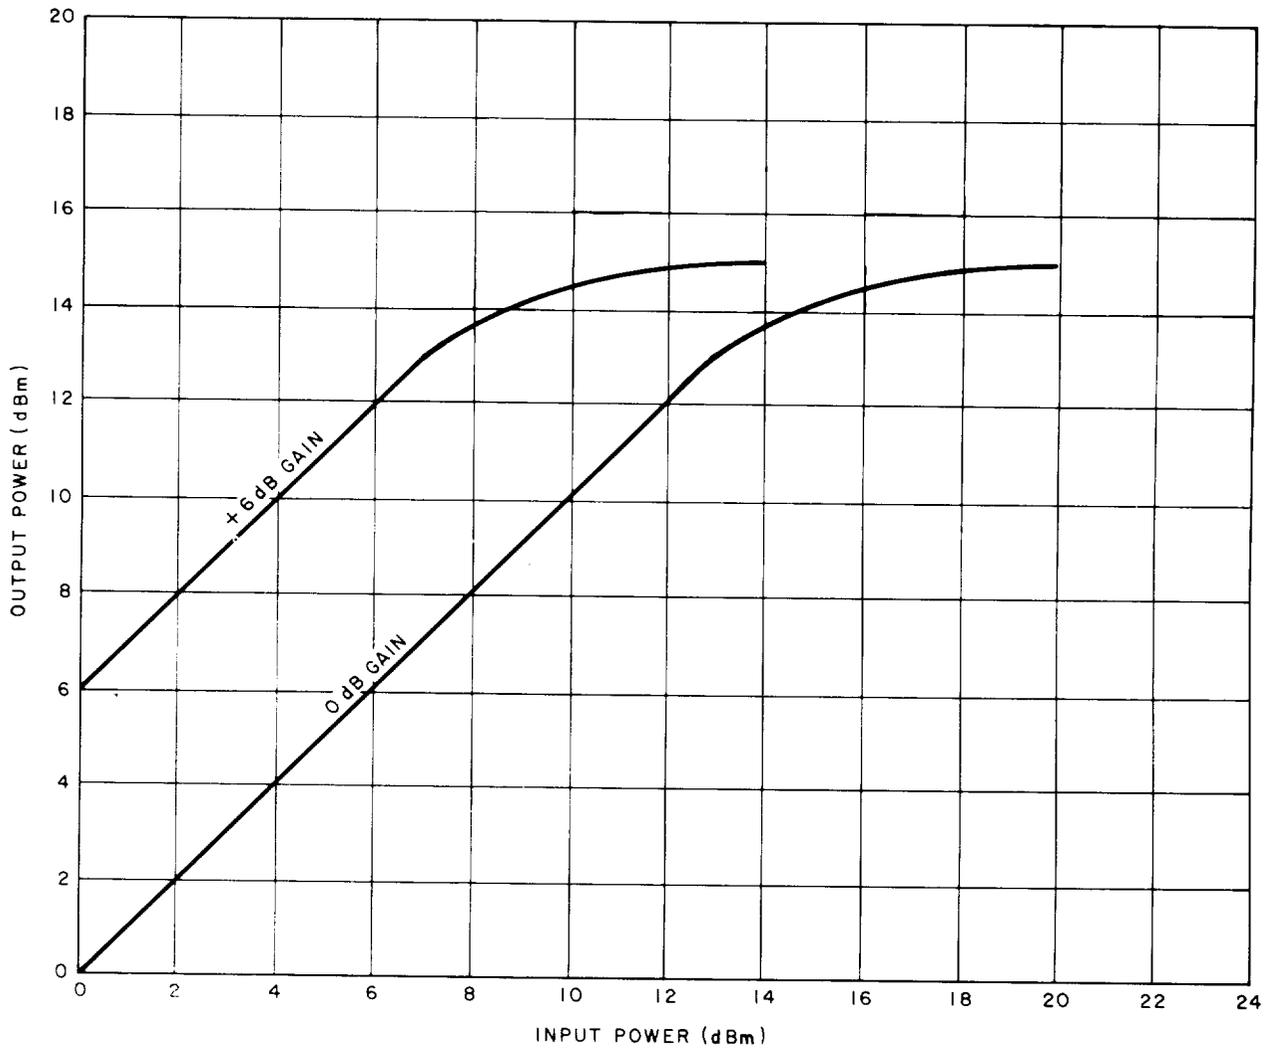

Fig. 11—Output Power Characteristic Curve
4.05 Figure 11 shows the output power capability of the 2-2 intermediate (L-L) repeaters. The